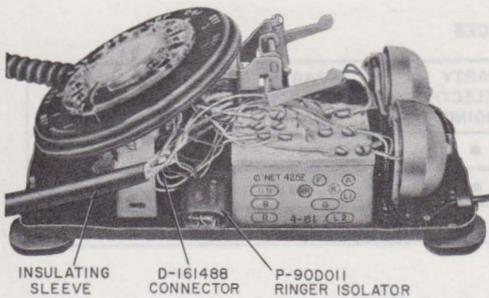

Fig. 2—Ringer Isolator in 500-Type Telephone Set
- Add Fig. 2 and 3
Lines equipped with ringer isolators cannot be tested for continuity by conventional testdesk procedures. This device should be installed in such a manner as not to interfere with electrical or mechanical operation of the telephone set (Fig. 2 and 3).